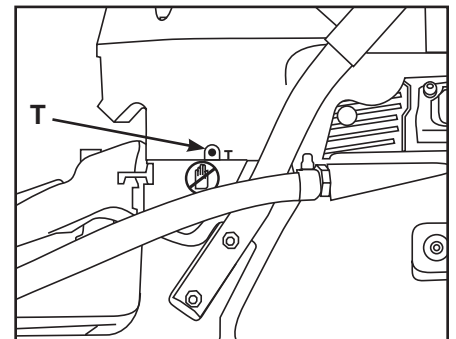

Figure 2
**T – Idle Screw** (Figure 2) is adjusted so that the engine idles smoothly but the clutch does not engage.